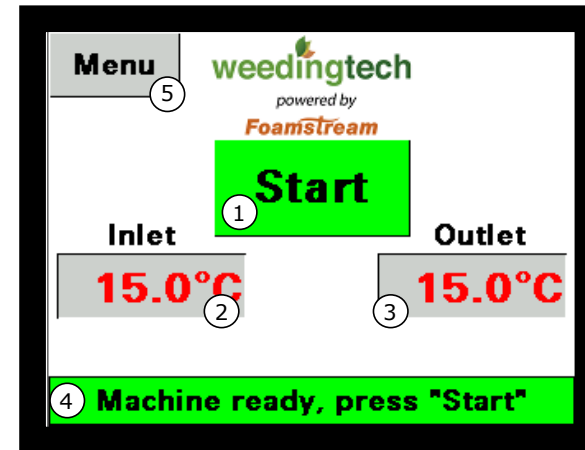

Figure 6 - Start screen of the PLC
- ✓ Wait until the purge is completed. A new screen will appear, represented in Figure 6.
When the M600 is ready to start, the screen below will appear (same as Figure 6)
To access the menu, click on the **Menu** (item 5 in Figure 6) button on the top left-hand side of the screen. The screen below will appear.